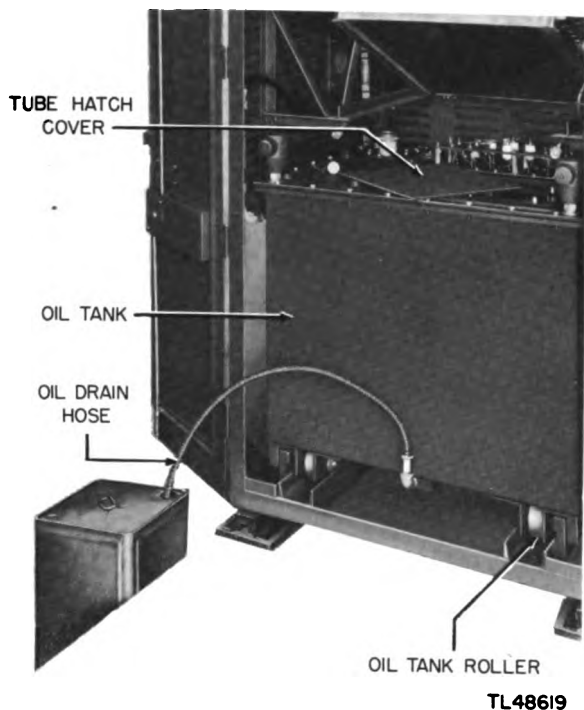

Figure 4-7. Draining oil.
(1) Unfasten the tube hatch cover.
(2) Uncouple the flexible metal hose from the breather. Drain the oil through the hose into a clean container placed below the level of the tank (fig. 4-7). The tank holds 32 gallons of oil.